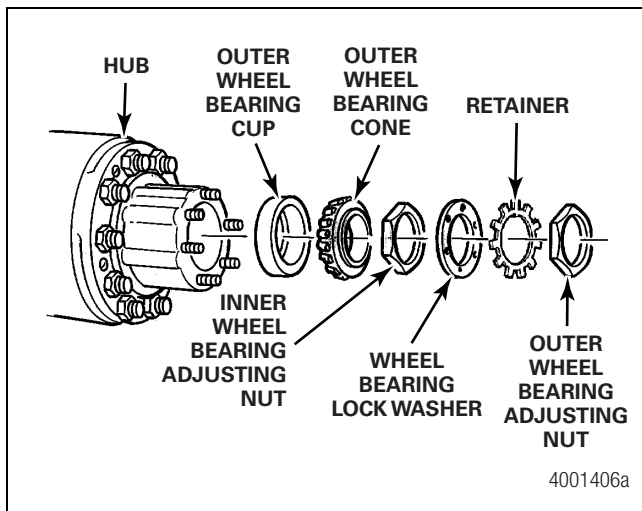

Figure 5.15
- Install the inner wheel bearing adjusting nut onto the spindle and against the outer bearing so that the pin in the inner bearing adjusting nut is pointing away from the bearing. Figure 5.15.